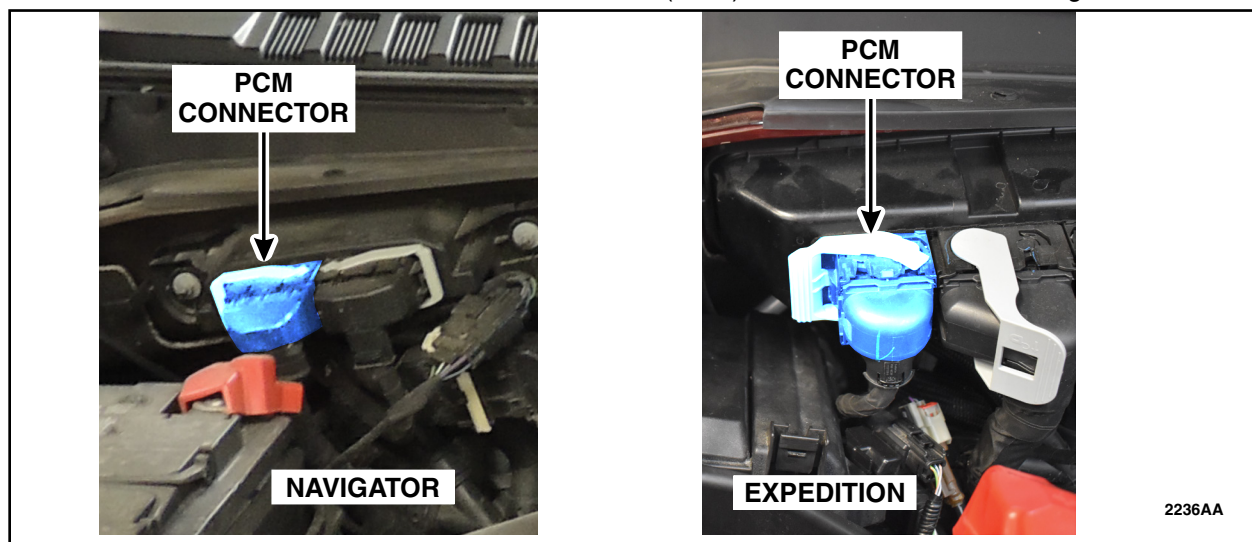

FIGURE 6
6. Disconnect the outboard Powertrain Control Module (PCM) electrical connector. See Figure 6.